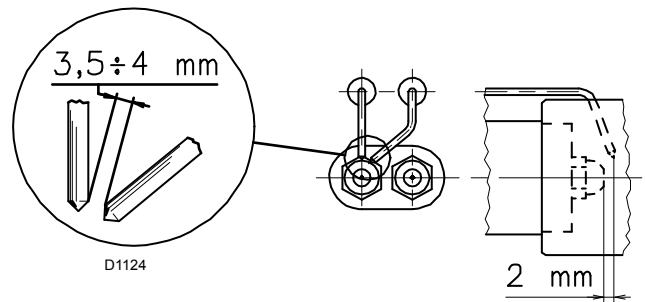

Fig. 14
Check that the electrodes are positioned correctly, as in Fig. 14, complying with the dimensions indicated.
- The nozzle for the 1st stage of operation is the one beneath the ignition electrodes, Fig. 14 on page 18.